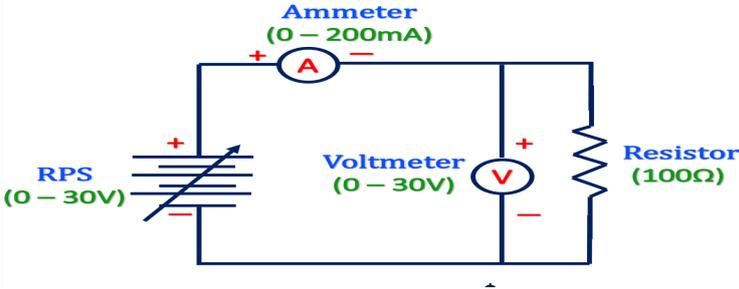

Figure 2.1.ohm's law
1. Part (1) Determine the theoretical currents then set up of ohms law for Figure 2.1 , and record all the currents in Table 2.1.
1. Part (1) Set up the circuit as shown in Figure 2.1. Apply a DC power supply of 0 to 10V and measure the currents (I) in the circuit (i.e. connect the ammeters as shown in Figure 2.1) and complete table 2.1. Compare the values obtained from part 1 above and part 1 here.